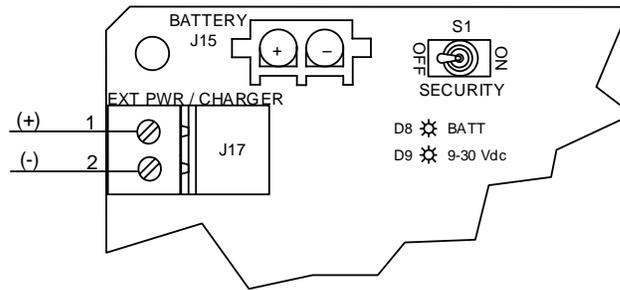

Figure 28: μ FLOG⁵ power connections and power option selector
1. Insert the battery connector into the electronic board's battery plug (Item J15, Figure 28).
1. Connect the power supply terminal connector to the EXT PWR / CHARGER (J17) terminal block on the electronic board (Figure 28, page 50).